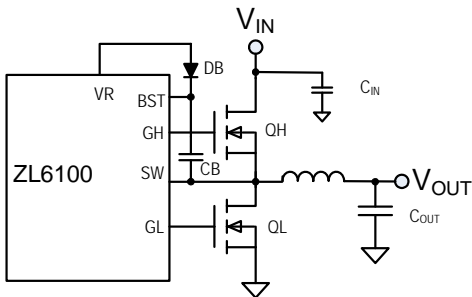

FIGURE 4. SYNCHRONOUS BUCK CONVERTER
Figure 4 illustrates the basic synchronous buck converter topology showing the primary power train components. This converter is also called a step-down converter, as the output voltage must always be lower than the input voltage. In its most simple configuration, the ZL6100 requires two external N-channel power MOSFETs, one for the top control MOSFET (QH) and one for the bottom synchronous MOSFET (QL). The amount of time that QH is on as a fraction of the total switching period is known as the duty cycle D , which is described by Equation 1:
Typically, buck converters specify a maximum duty cycle that effectively limits the maximum output voltage that can be realized for a given input voltage. This duty cycle limit ensures that the lowside MOSFET is allowed to turn on for a minimum amount of time during each switching cycle, which enables the bootstrap capacitor (CB in Figure 4) to be charged up and provide adequate gate drive voltage for the
The gate drive voltage for the high-side MOSFET driver is generated by a floating bootstrap capacitor, CB (see Figure 4). When the lower MOSFET (QL) is turned on, the SW node is pulled to ground and the capacitor is charged from the internal VR bias regulator through diode DB. When QL turns off and the upper MOSFET (QH) turns on, the SW node is pulled up to V_{DD} and the voltage on the bootstrap capacitor is boosted approximately 5V above V_{DD} to provide the necessary voltage to power the high-side driver. A Schottky diode should be used for DB to help maximize the high-side drive supply voltage.